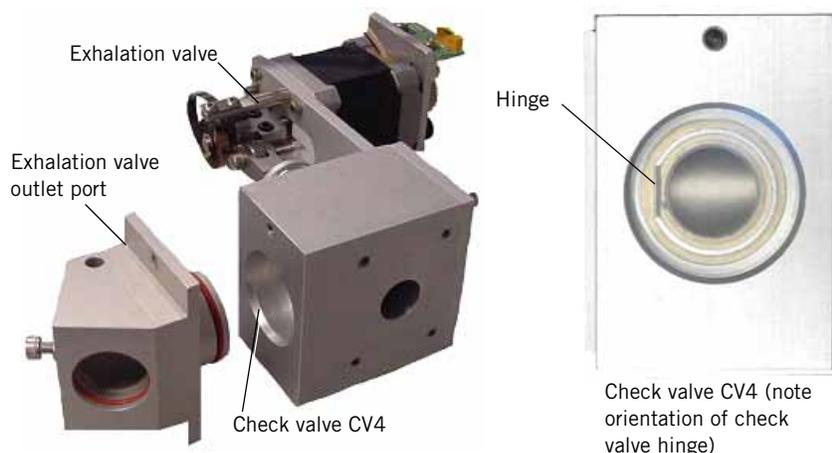

Figure 10-40: Inspecting O-rings in Exhalation Valve Outlet Port and Check Valve CV4 Orientation
- Inspect the two O-rings on the exhalation valve outlet port (Figure 10-40). Replace the O-rings if they are cracked or deformed. Lightly lubricate O-rings with Krytox GPL226 lubricant.